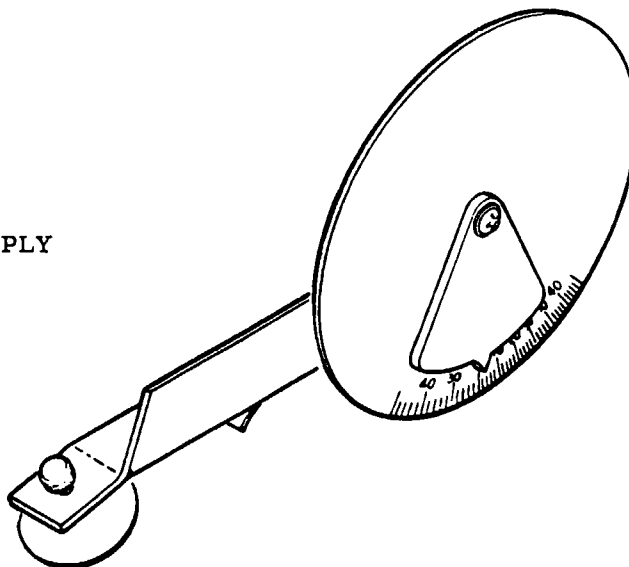

Figure 6-4. Inclinometer for Measuring Control Surface Travel
g. With ailerons in neutral position (streamlined), mount an inclinometer on trailing edge of one aileron and set to 0° . (Refer to figure 6-4 for inclinometer.)
An inclinometer for measuring control surface travel is available from the Cessna Supply Division. See figure 6-4.